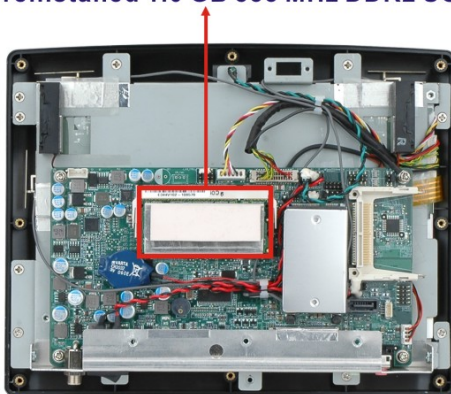

Figure 5-3: AFL-10A-N270 SO-DIMM Socket Location
Step 3: Locate the DDR2 SO-DIMM on the motherboard (**Figure 5-3**).